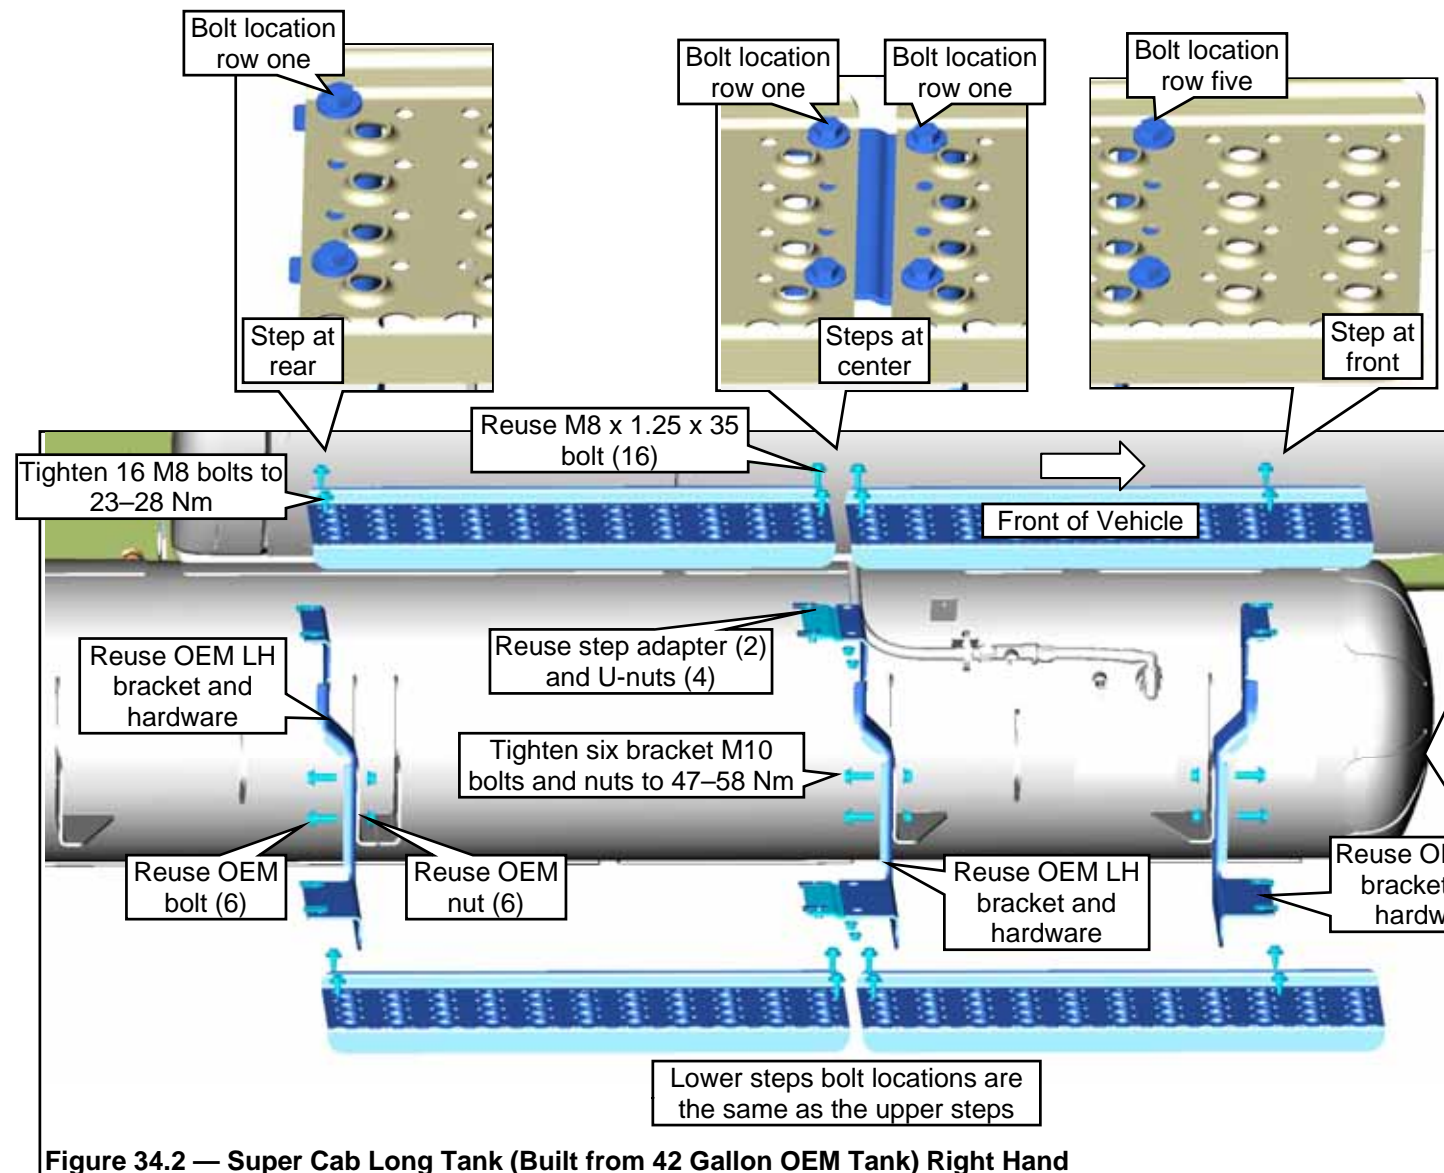
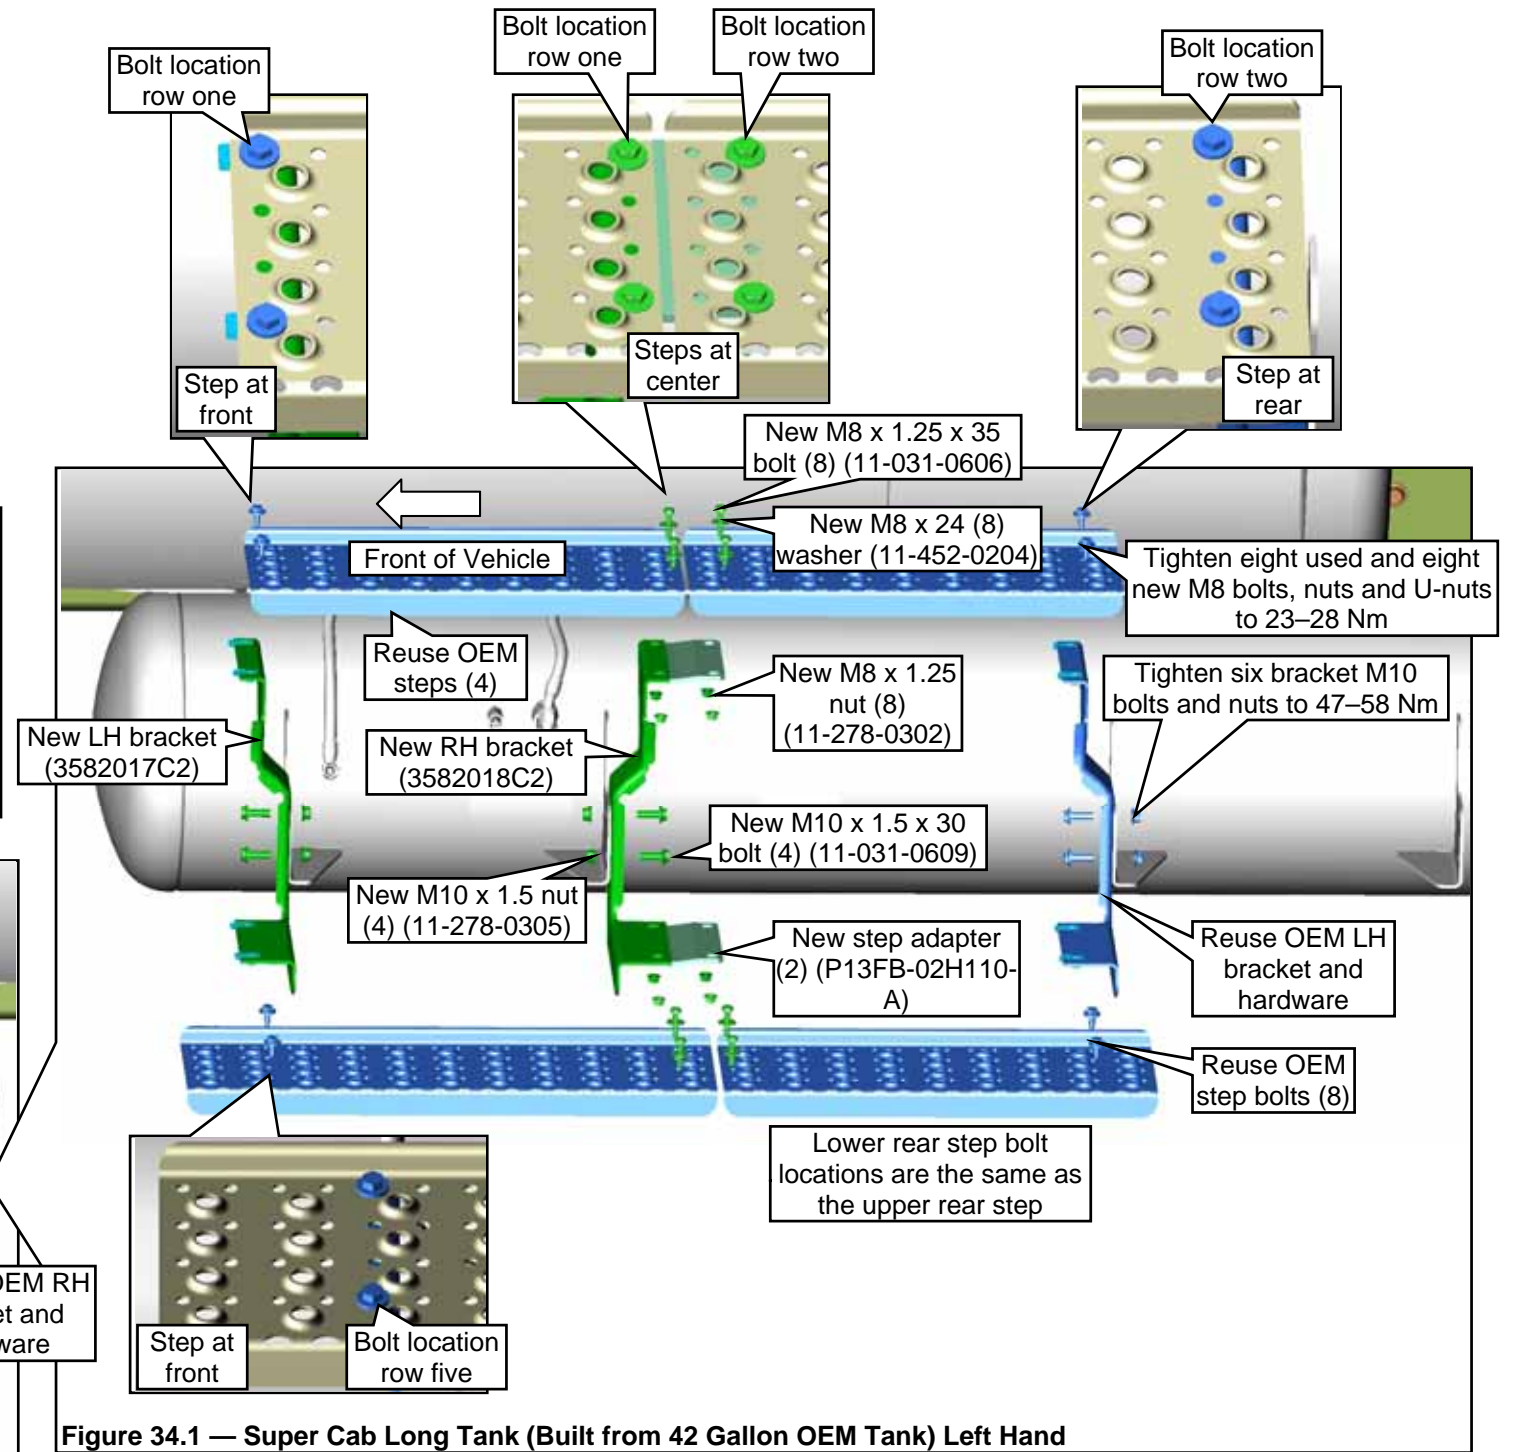

Figure 34.2 — Super Cab Long Tank (Built from 42 Gallon OEM Tank) Right Hand
Figure 34.1 — Super Cab Long Tank (Built from 42 Gallon OEM Tank) Left Hand
1. Attach the new left and right step brackets to the step weldments on the left hand tank (front and middle attachments). Use four new M10 x 1.5 x 30 bolts and nuts for the two new step brackets. Reuse the rear most step bracket and hardware from the OEM. **Figure 34.1.** The right side tank steps, brackets, U-nuts, bolts and nuts are all reused from the OEM. **Figure 34.2.**
2. Reuse the OEM step M8 bolts and U-nuts. Install the U-nuts into the right, left and left (three) step brackets of the left hand and right hand tanks. Reuse the OEM upper and lower steps at the left hand and right hand tanks and position the steps to the step brackets. Install the bolts through the steps into the U-nuts. The middle bracket hardware for the left hand tank under the two upper and lower steps is all new and is found in the kit. Install the upper and lower step adapters, M8 x 1.25 x 35 bolts, washers and M8 x 1.25 nuts at the middle between the two upper and lower steps. All steps and hardware on the right hand tank are OEM and are reused on the new right hand tank. Bolt locations for the RH tank upper and lower steps are the same. Bolt locations for the RH tank upper and lower steps are the same. Tighten all fasteners of the left and right tanks to specification. **Figures 34.1 and 34.2.**